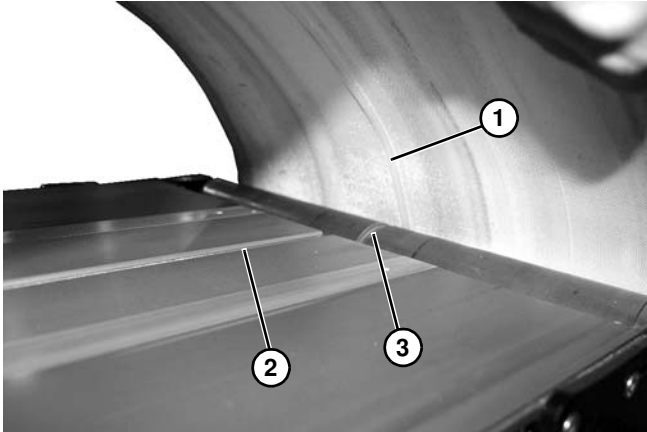

Figure 66
Verify V-Guide on belt (**Figure 66, item 1**), is aligned with V-Guide in frame (**Figure 66, item 2**) and tails (**Figure 66, item 3**).